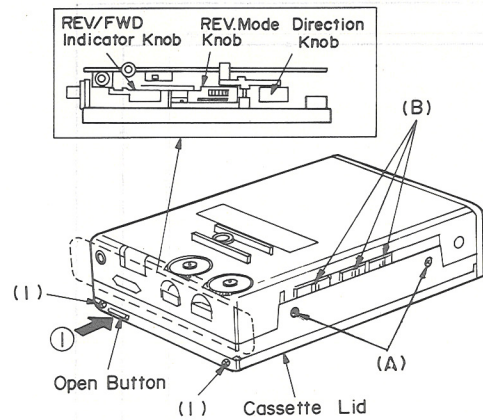

Fig. 1
1. Remove the screw (A) (1.4×3.5)mm×2. (Fig. 1)
2. Remove the knob (B)×3 with ⊖ screwdriver. (Fig. 1)